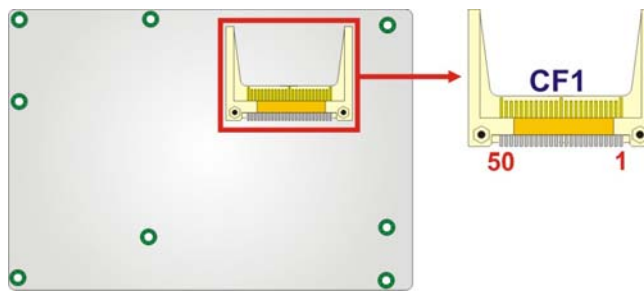

Figure 3-8: CF Card Socket Location
- CN Location:** See **Figure 3-8**